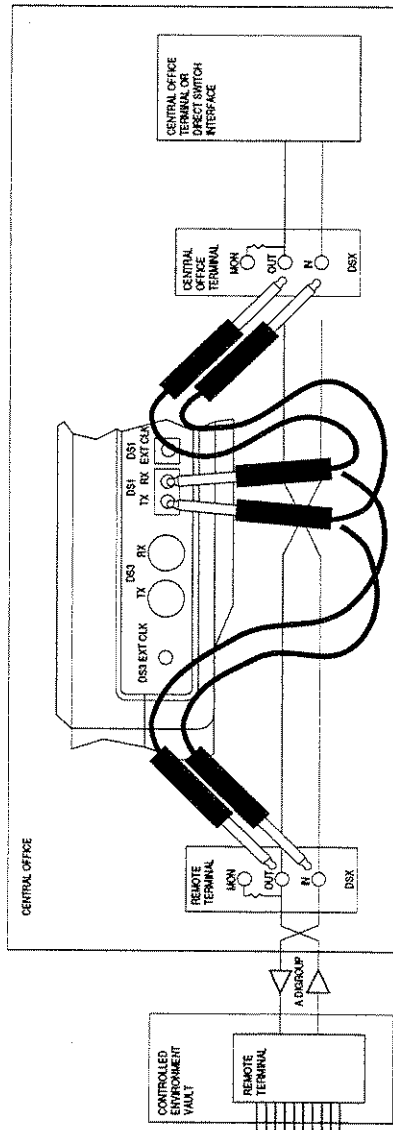

Figure 1.16.C SLC-96 out-of-service testing
- 3) Connect the test set to the circuit as required for the testing you wish to perform. Refer to Figures 1.16.A, C and D. More than one set may be necessary because you may need to transmit and receive maintenance commands on the A digroup while you are performing bit error testing on another digroup. Possible tests you can perform include: